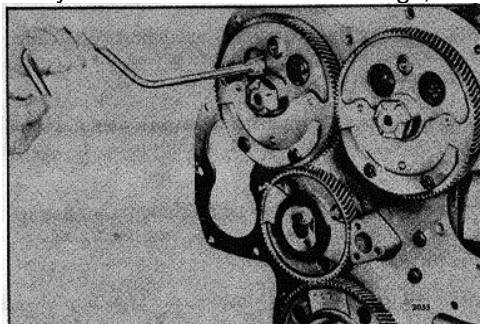

Fig . 2. Removing or Installing Thrust Washer Retaining Bolts
11. Remove the two retaining bolts that secure the camshaft or balance shaft thrust washer to the cylinder block by inserting a socket wrench through a hole in the web of the gear as shown in Fig. 2.